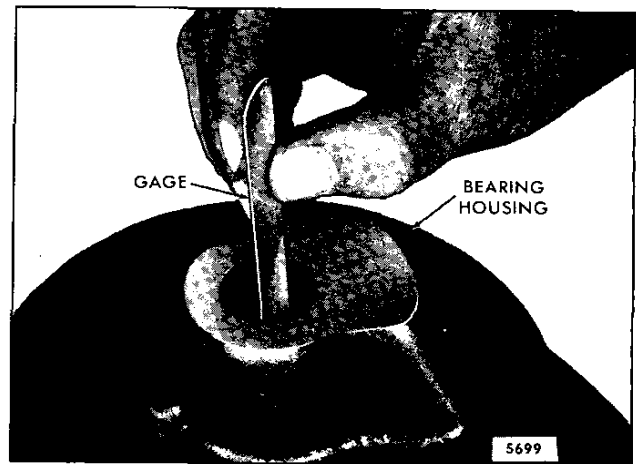

Fig. 11 – Checking Turbine Seal Ring Gap in Bearing Housing
- c. Install the turbine seal ring in its bore, inspect visually for full circle contact, and measure the ring gap with a feeler gage (Fig. 11). The gap range is .002" to .007". Replace if the ring fit is faulty. *Do not attempt to restore the bore condition by reaming or honing.*